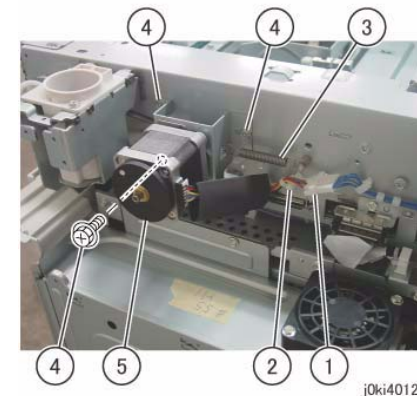

Figure 1 Remove the Carriage Motor
4. Remove the Carriage Motor. (Figure 1)